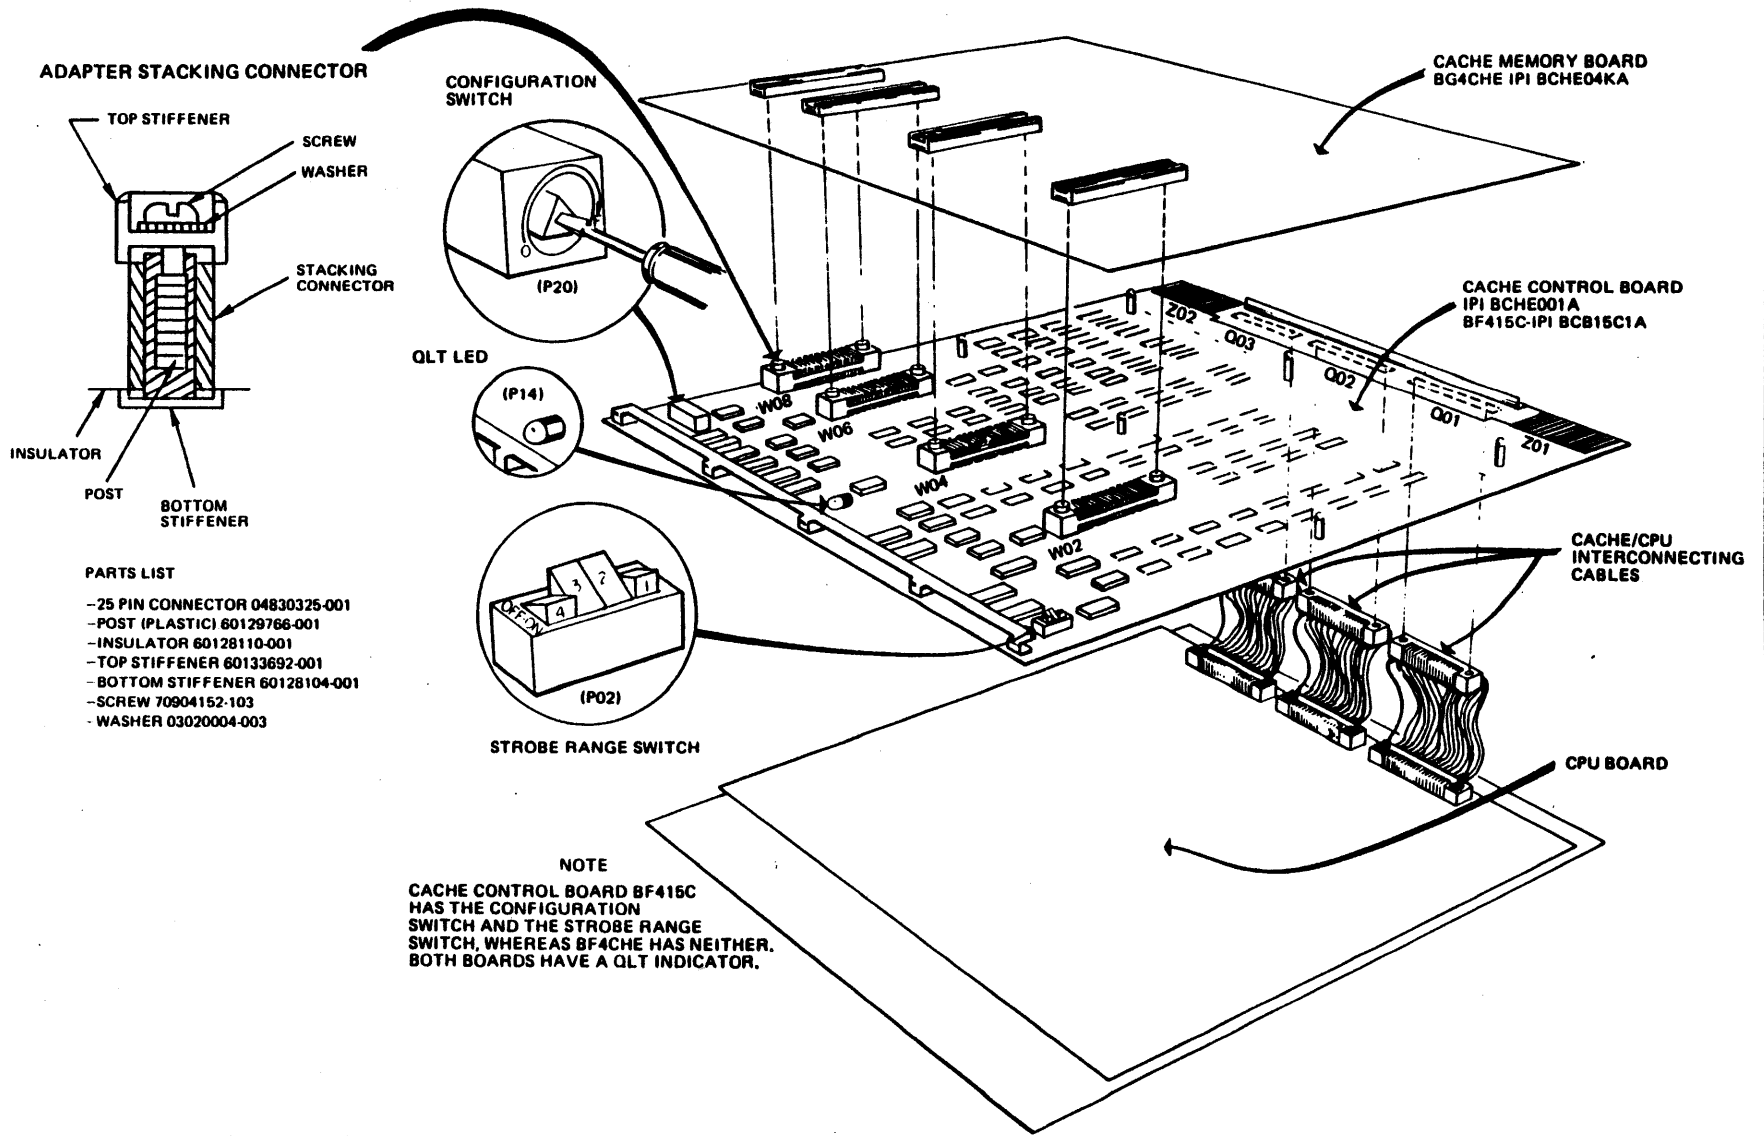
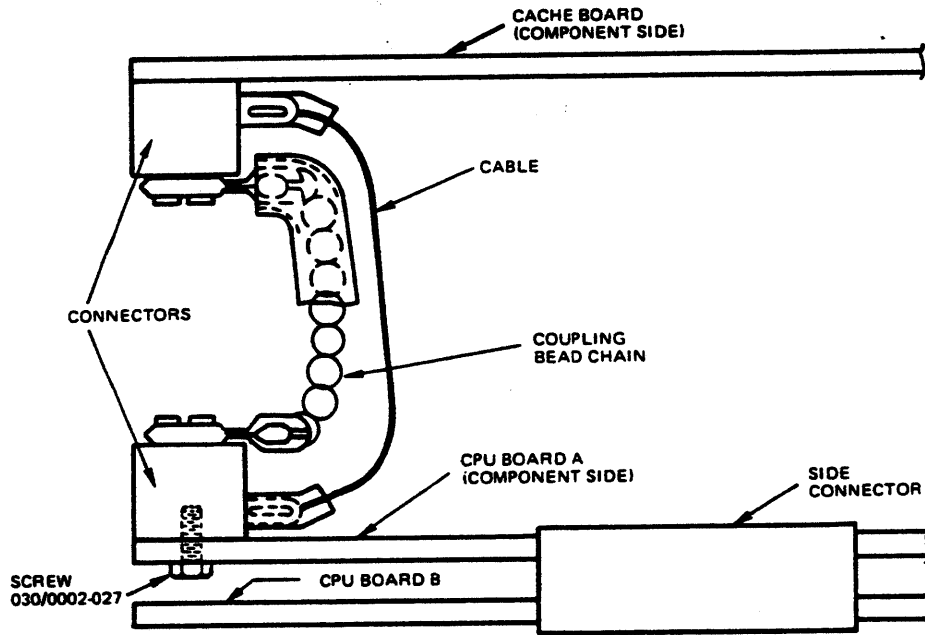

Figure 3-25 Cache Memory Unit Board Layout
Figure 3-26 CPU/Cache Cable Assembly
The cache consists of a cache memory board (BG4CHE) that is physically mounted piggyback style on the cache control board (BF4CHE/BF415C) by four 25-pin stacking connectors (see Figure 3-25).
2. Figure 3-25 shows the location of the three contact areas for the cache/CPU connection. Figure 3-26 shows one of the three cable assemblies (60128613) that connects the CPU and the cache. Figure 3-26 also shows how the boards are located in relation to each other.
The cache control board (BF415C) contains two switches, which are located as shown in Figure 3-25. The operation and settings of the switches are described in the following paragraphs.